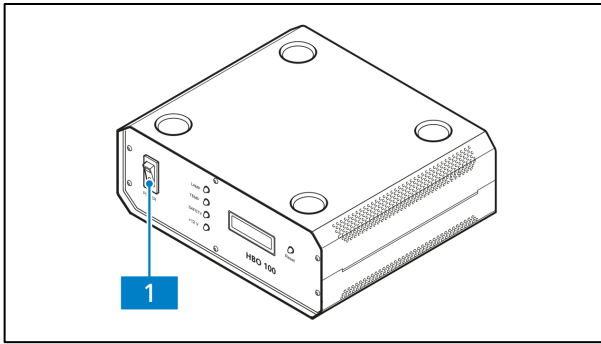

Fig. 3-63 Power supply unit for HBO 100 (front and back)
- Switch the HBO 100 illuminator for overhead fluorescence light (if in use) on or off with the power switch of the power supply unit for HBO 100 (Fig. 3-63/1).